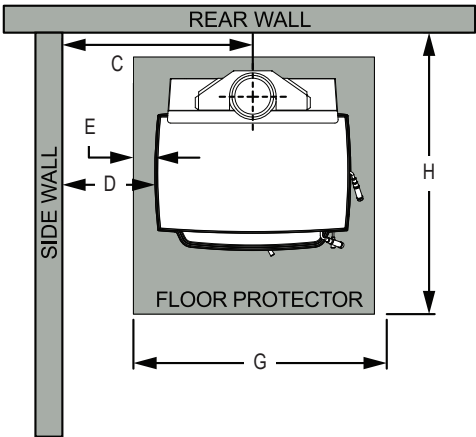

Figure 10.1
- The minimum Floor Protector sizes are specified in the clearance chart, see **Figures 10.1 and 109.2 on page 10**.
1. If a separate floor protector is being used position now. Place the firebox on the floor protector to suit the minimum installation clearances (**Figures 10.1 and 10.2 on page 10**).